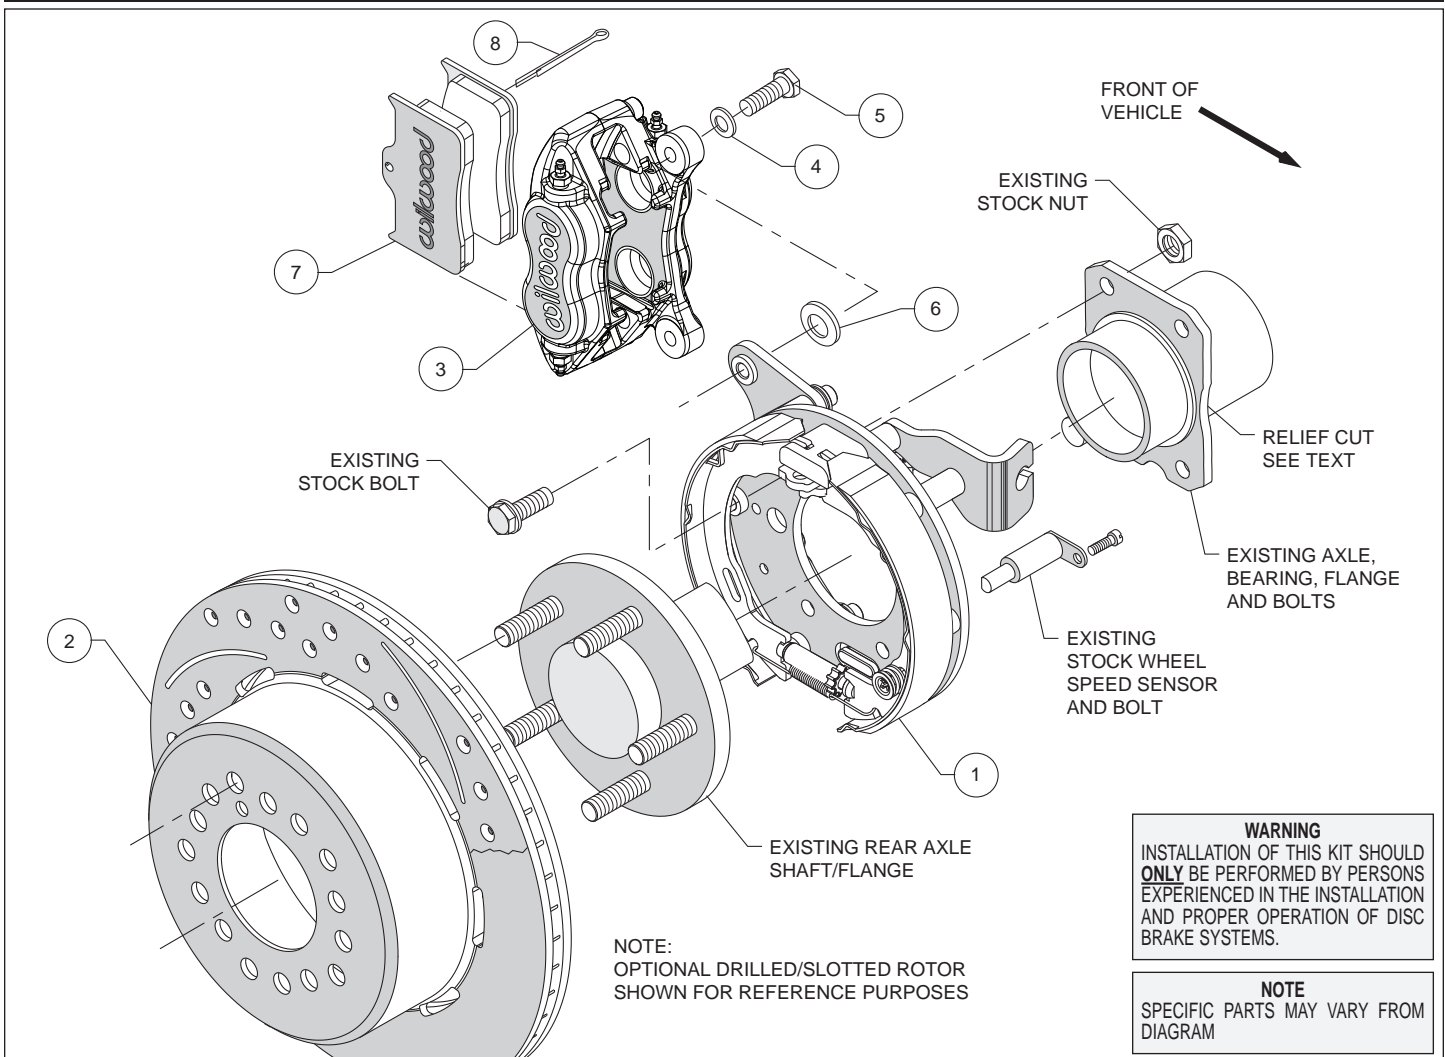
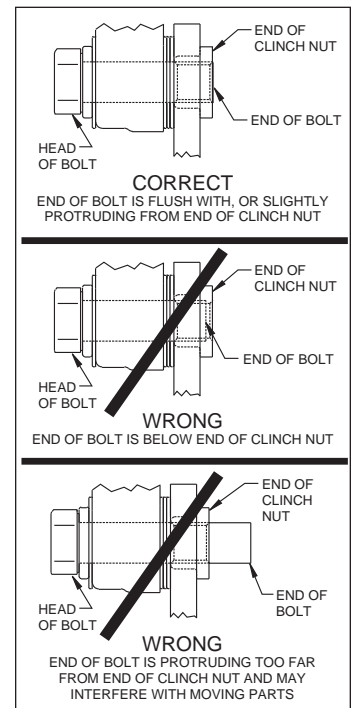

Figure 1. Typical Installation Configuration
Figure 4. Clinch Nut Engagement Diagram
- Orient the bracket assembly (1), as shown in Figure 1, and mount to the axle housing flange using the Original Equipment Manufacturer (OEM) bolts and nuts, Figure 1. Ensure that the bracket assembly backing plate fits flush against the axle housing flange. Apply red *Loctite*® 271 to the OEM bolt threads and torque to OEM specifications.
- Align the correct hole pattern in the rotor (2) with the stud pattern on the axle flange. **NOTE:** Some OEM and after market axles come with stud sizes larger than 0.50" diameter. Verify stud size and have a qualified machine shop drill the bolt circle of the rotor to the correct stud size, if necessary. Slide the rotor over the wheel studs covering the mounting bracket assembly (1) and against the axle flange face, Photo 1.
- **NOTE:** Please reference the caution statement at the beginning of the assembly instructions. Mount the caliper (3) onto the caliper mounting bracket (1) using bolts (5) and washers (4), as shown in Figure 1. Initially place one .035" thick shim (6) on each bolt between the caliper and the bracket, Photo 2. Temporarily tighten the mounting bolts and view the rotor (2) through the top opening of the caliper. The rotor should be centered in the caliper, Photo 3. If not, adjust by adding or subtracting shims between the bracket and the caliper. Always use the same amount of shims on each of the two mounting bolts. **NOTE:** The end of each bolt must be flush with or slightly protruding from the head of the clinch nut, as shown in Figure 4. If necessary place spare shims between washer (4) and caliper mounting ear to achieve the proper clinch nut engagement. Once the caliper alignment and clinch nut engagement are correct, remove the bolts one at a time, apply red *Loctite*® 271 to bolt threads, and